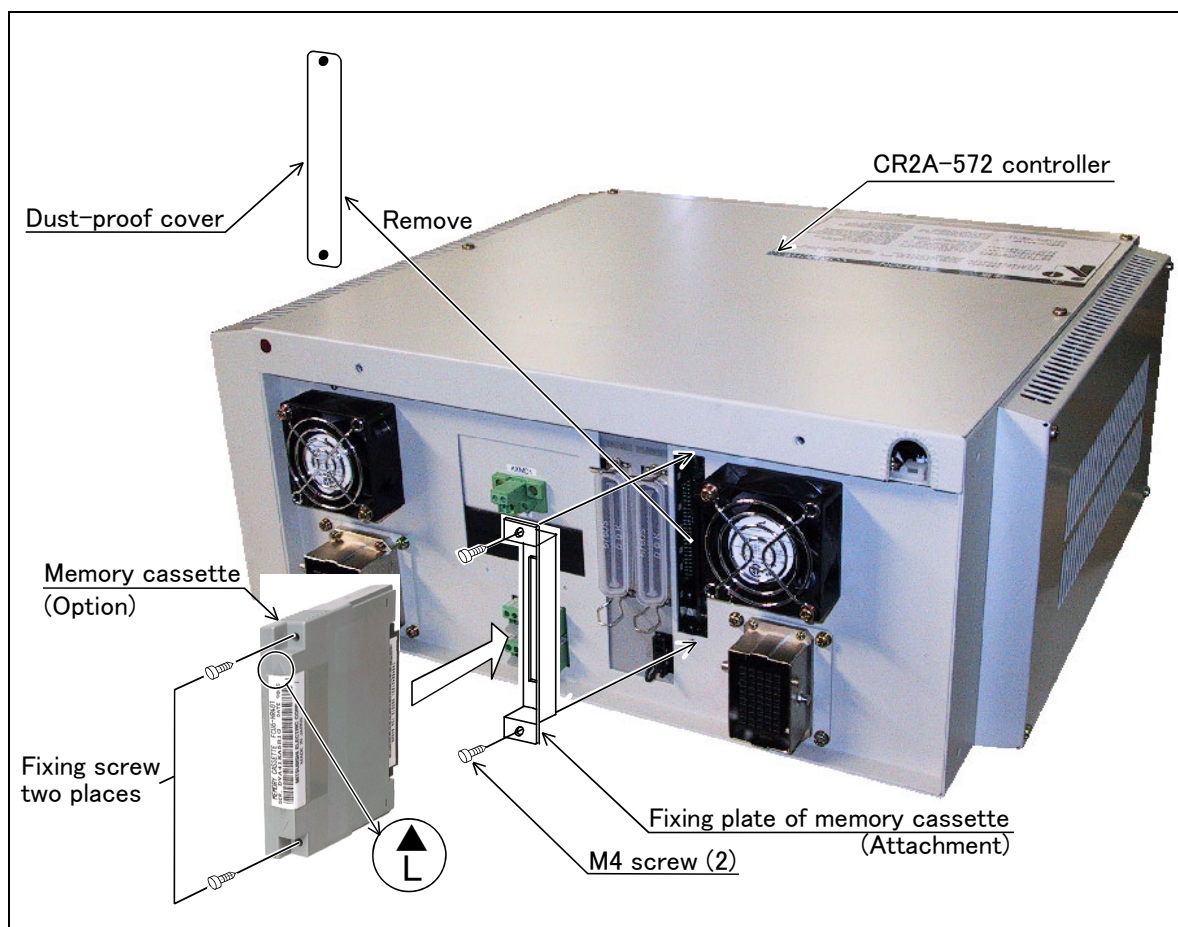

Fig.3-37 : Installation method of extension memory cassette
- As shown in Fig. 3-37, insert the memory cassette all the way to the back with the "▲" facing up.